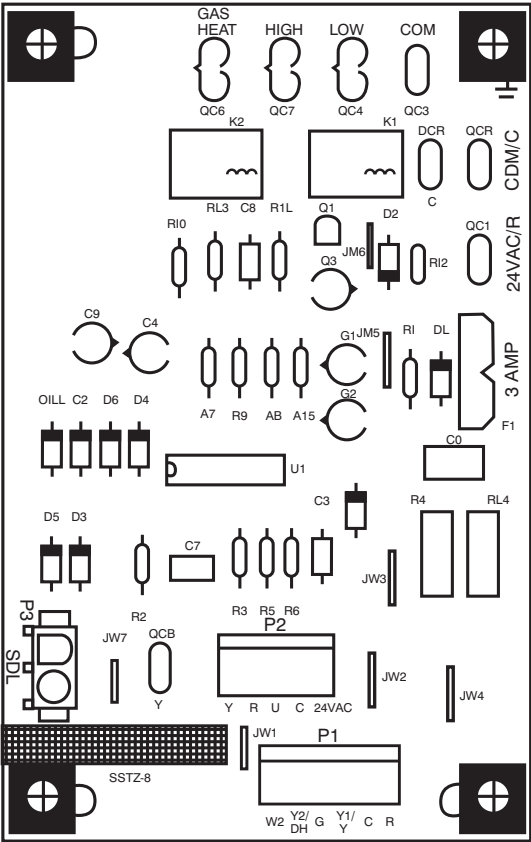

Fig. 21 – Interface Fan Board (IFB)
This unit is factory-set for use with a single cooling fan speed. For single phase models, the cooling speed is marked "COOL" on the IGC (See Fig. 20). For 3-phase models, the cooling speed is marked "LOW" on the interface board (IFB) (See Fig. 21). The factory-shipped settings are noted in Table 10 and Table 11. There are up to 3 additional speed tap wires available for use in either gas heating mode, cooling mode, or continuous fan mode (For color coding on the indoor fan motor leads, see Table 8). For single phase models, one of the additional speed tap wires is connected to the continuous fan, with the other 2 wires shipped loose in the control box near the IGC. For three phase models, the additional 3 speed tap wires are shipped loose with vinyl caps and are located in the control box near the interface fan board (IFB) (See Fig. 21).
2. Remove the current speed tap wire from the “GAS HEAT” terminal on the interface fan board (IFB) (Fig. 21) and place vinyl cap over the connector on the wire.
2. Remove the current speed tap wire from the “LOW” terminal on the interface fan board (IFB) (See Fig. 21) and place vinyl cap over the connector on the wire.
1. Remove fan speed tap wire from the “LOW” terminal on the interface fan board (IFB) (See Fig. 21).
When the DEHUM feature is not used, the continuous fan speed will be the same as cooling fan speed. When the DEHUM feature is used, the continuous fan will operate on IFB “LOW” speed when the DH control lead is not energized, or IFB “HIGH” speed when the DH lead is energized (see Fig. 21).